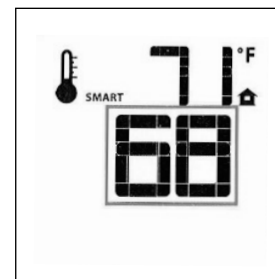

Figure 60. Smart Set Temp.
- To adjust the temperature, press the Up or Down Arrow Keys until the desired Set Temperature is displayed. Fig. 60.